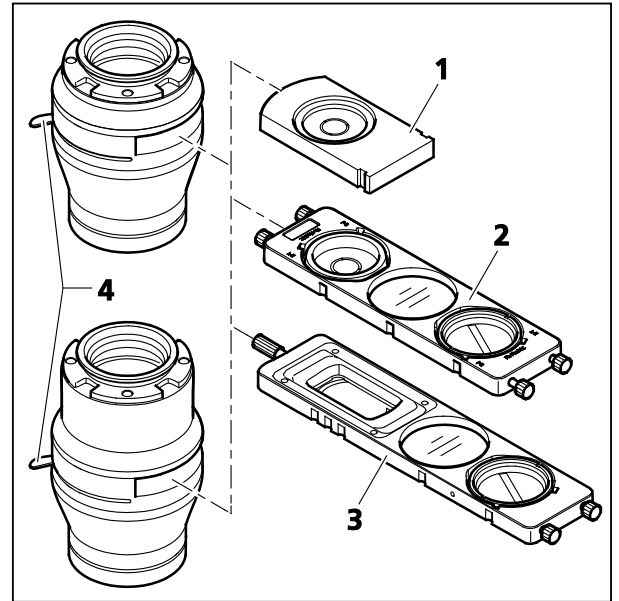

Fig. 2-17 LD Condensers 0.3 and 0.4 for Sliders
- Condenser equipped with an adjustable aperture diaphragm (Fig. 2-17/4) for sliders with fixed phase stop Ph1/0.3 (Fig. 2-17/1) or Ph1/0.4; slider Ph/PlasDIC, H, Ph/PlasDIC (Fig. 2-17/2) or slider Ph/PlasDIC, H, Var (Fig. 2-17/3)